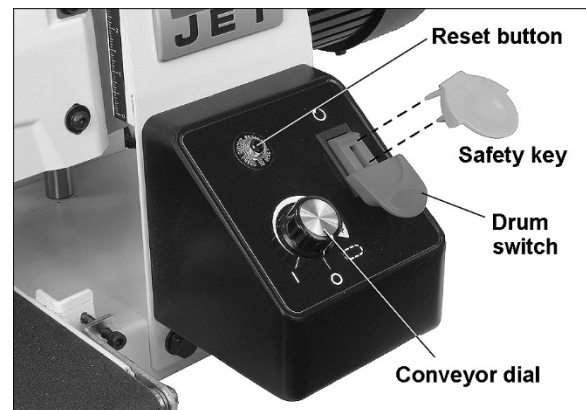

Figure 8-1: Control Panel
3. Start sanding drum (with control panel switch, Figure 8-1).
4. Start conveyor and select feed rate (with control panel dial, Figure 8-1).
To prevent unauthorized use of sander, turn off main switch and pull out safety key (Figure 8-1). Store key in a safe place. Key must be reinserted to start sander.
If the sander becomes overloaded, the built-in breaker will trip to help protect the motor. Allow the machine to cool down, then push the reset button (Figure 8-1) to restart.